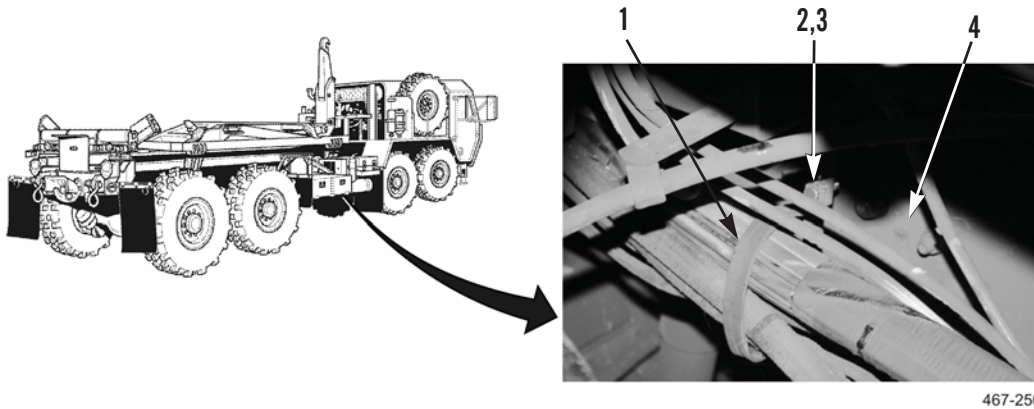

Figure 13. Cable Clamp Removal.
1. Remove two bolts (Figure 13, Item 2), nuts (Figure 13, Item 3), and cable clamps (Figure 13, Item 1) from right and left side frame (Figure 13, Item 4). Set aside for reinstallation.